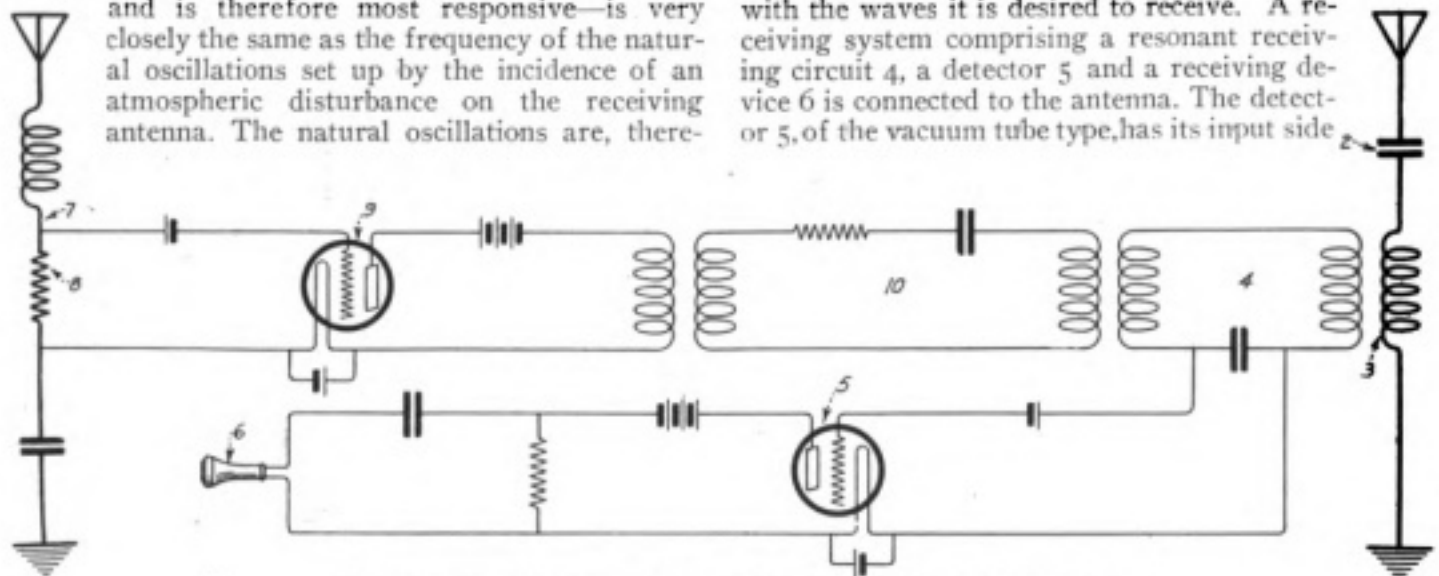

Figure 1—Circuit having two antennae for the elimination of static
L. Espenschied describes an arrangement by which the receiving device, in addition to being operatively connected to the receiving antenna, is connected to an auxiliary circuit which simulates the receiving antenna as regards natural oscillations, means being provided for exciting natural oscillations in the auxiliary circuit simultaneously with the excitation of natural oscillations in the receiving antenna by transient disturbances. Referring to figure 1, 1 is a receiving antenna, tuned by means of condenser 2 and inductance 3 to resonance with the waves it is desired to receive. A receiving system comprising a resonant receiving circuit 4, a detector 5 and a receiving device 6 is connected to the antenna. The detector 5, of the vacuum tube type, has its input side
exciting natural oscillations in the auxiliary circuit simultaneously with the excitation of natural oscillations in the receiving antenna by transient disturbances. Referring to figure 1, 1 is a receiving antenna, tuned by means of condenser 2 and inductance 3 to resonance with the waves it is desired to receive. A receiving system comprising a resonant receiving circuit 4, a detector 5 and a receiving device 6 is connected to the antenna. The detector 5, of the vacuum tube type, has its input side connected to the resonant receiving circuit 4, and its output side connected to the receiver 6. Receiving circuit 4 is resonant to the receiving frequency; 7 is an auxiliary antenna preferably aperiodic. Across an impedance element 8, which may be a non-inductive resistance element, and which is in series with antenna 7, is connected to the input side of an amplifier 9, of the vacuum tube type. To the output side of amplifier 9 is coupled, very loosely, an oscillation circuit 10 which is also con-